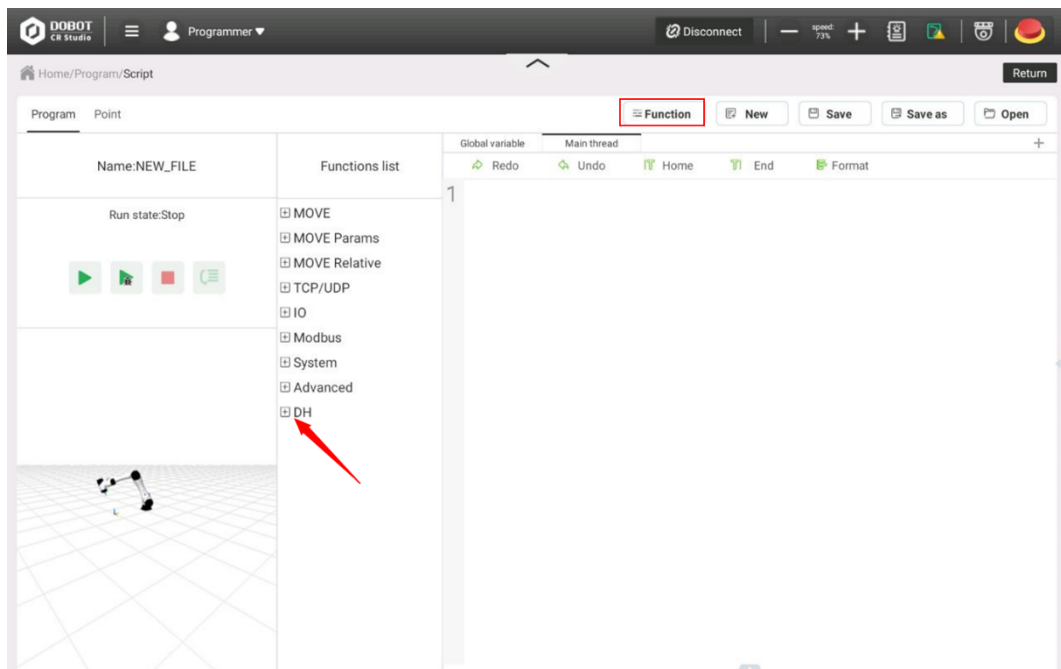

Figure 3.10 Select functions to operate the gripper
Step 1 Enter the **Script** page, and click **Function**, as shown in Figure 3.10.